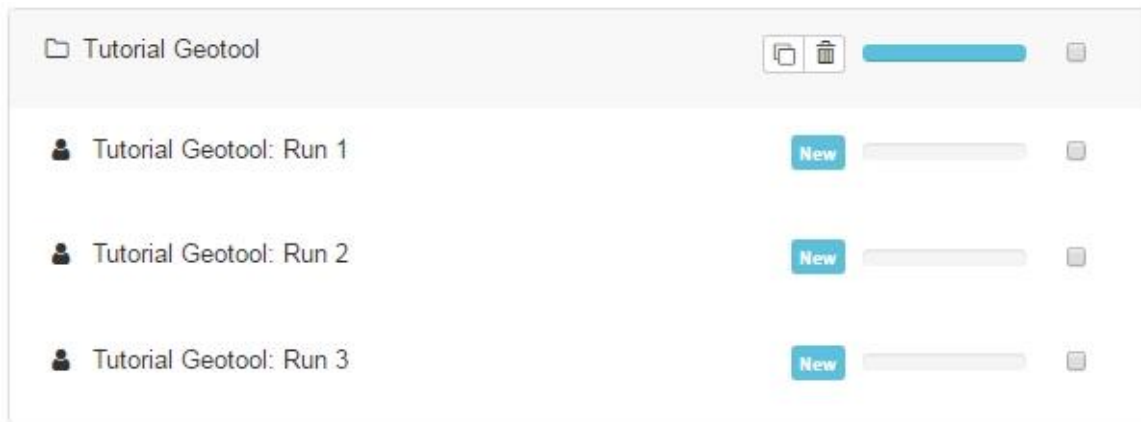

Figure 4.9 Overview of the created runs within the Tutorial Geotool scenario in the database contents panel
- Scroll down the list of scenario in the database contents panel and look of the scenario that is created 'Geotool tutorial'. As you click on the scenario bar the list of the three runs associated with your scenario appear (Figure 4.9).